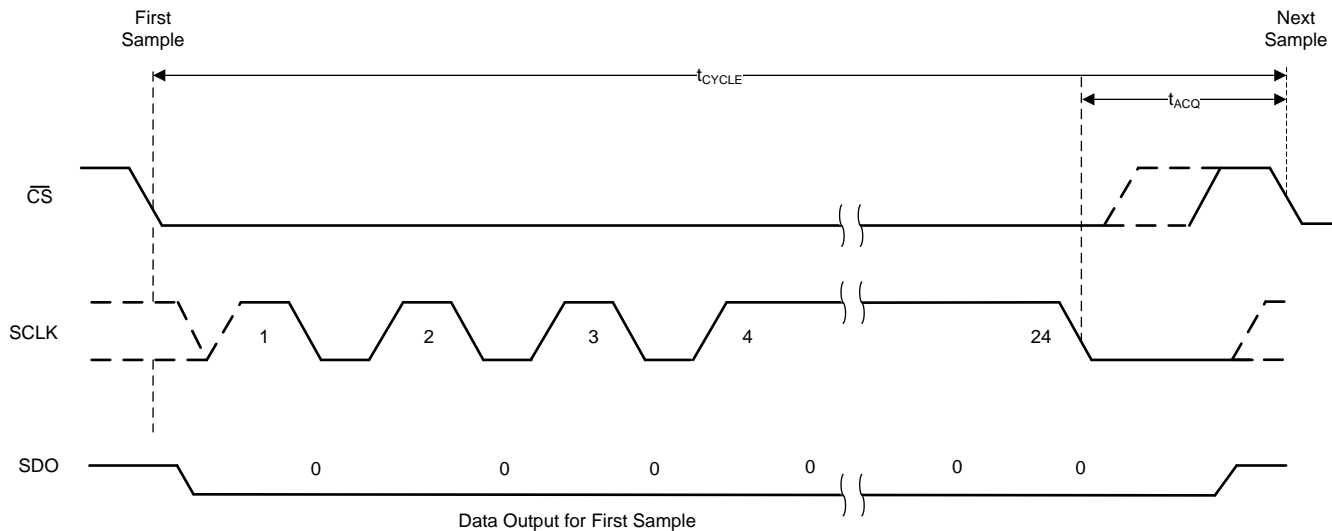

Figure 38. Timing for Offset Calibration on Power-Up
The host controller must provide a serial transfer frame as described in Figure 38 or in Figure 39 to enter the OFFCAL state.
If the host controller starts the offset calibration process but then pulls the  $\overline{CS}$  pin high before providing 24 SCLKs, then the offset calibration process is aborted and the device enters the ACQ state. Figure 38 and Table 3 provide the timing for offset calibration on power-up.
(1) In addition to the timing specifications of Figure 38 and Table 3, the timing specifications described in Figure 2 and the Timing Requirements table are also applicable for offset calibration on power-up.